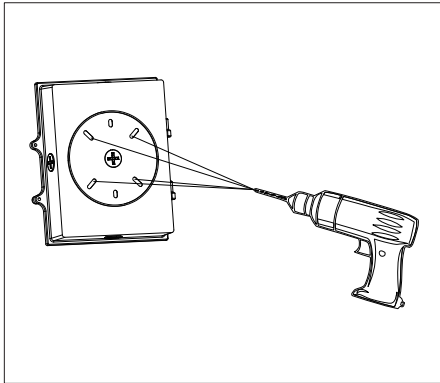
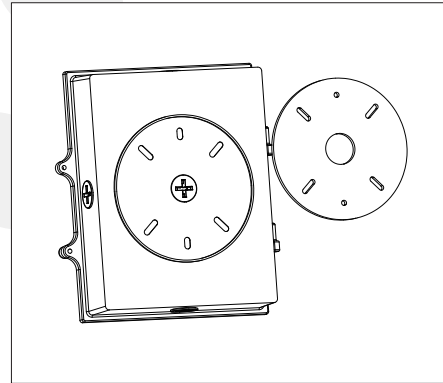

Figure 5
Figure 6
Step 3: Drill an installation holes at the bottom of light, paste the EVA mat (Figure 5 & Figure 6).